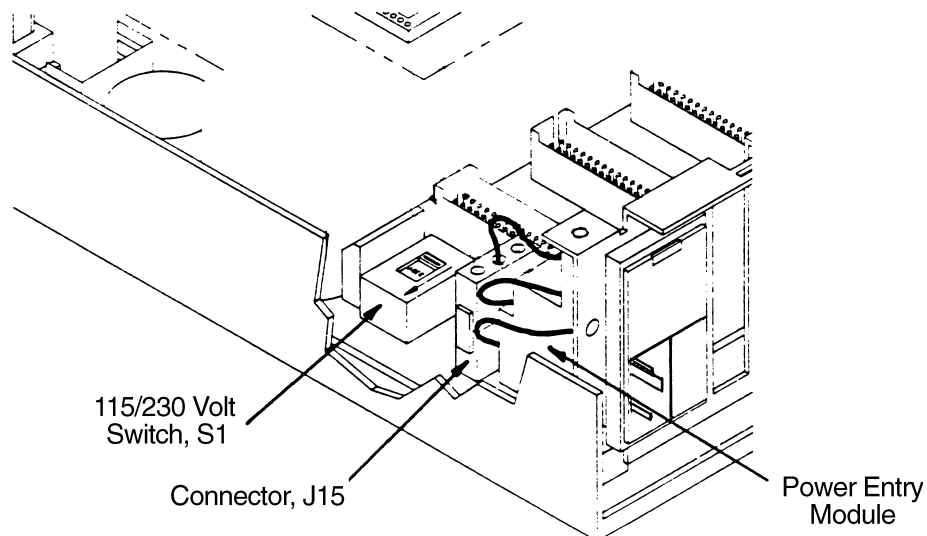

Figure 1-2 Setting Line Voltage
- 230 V position (for 220 V or 240 V, 50/60 Hz) as shown in Figure 1-2.